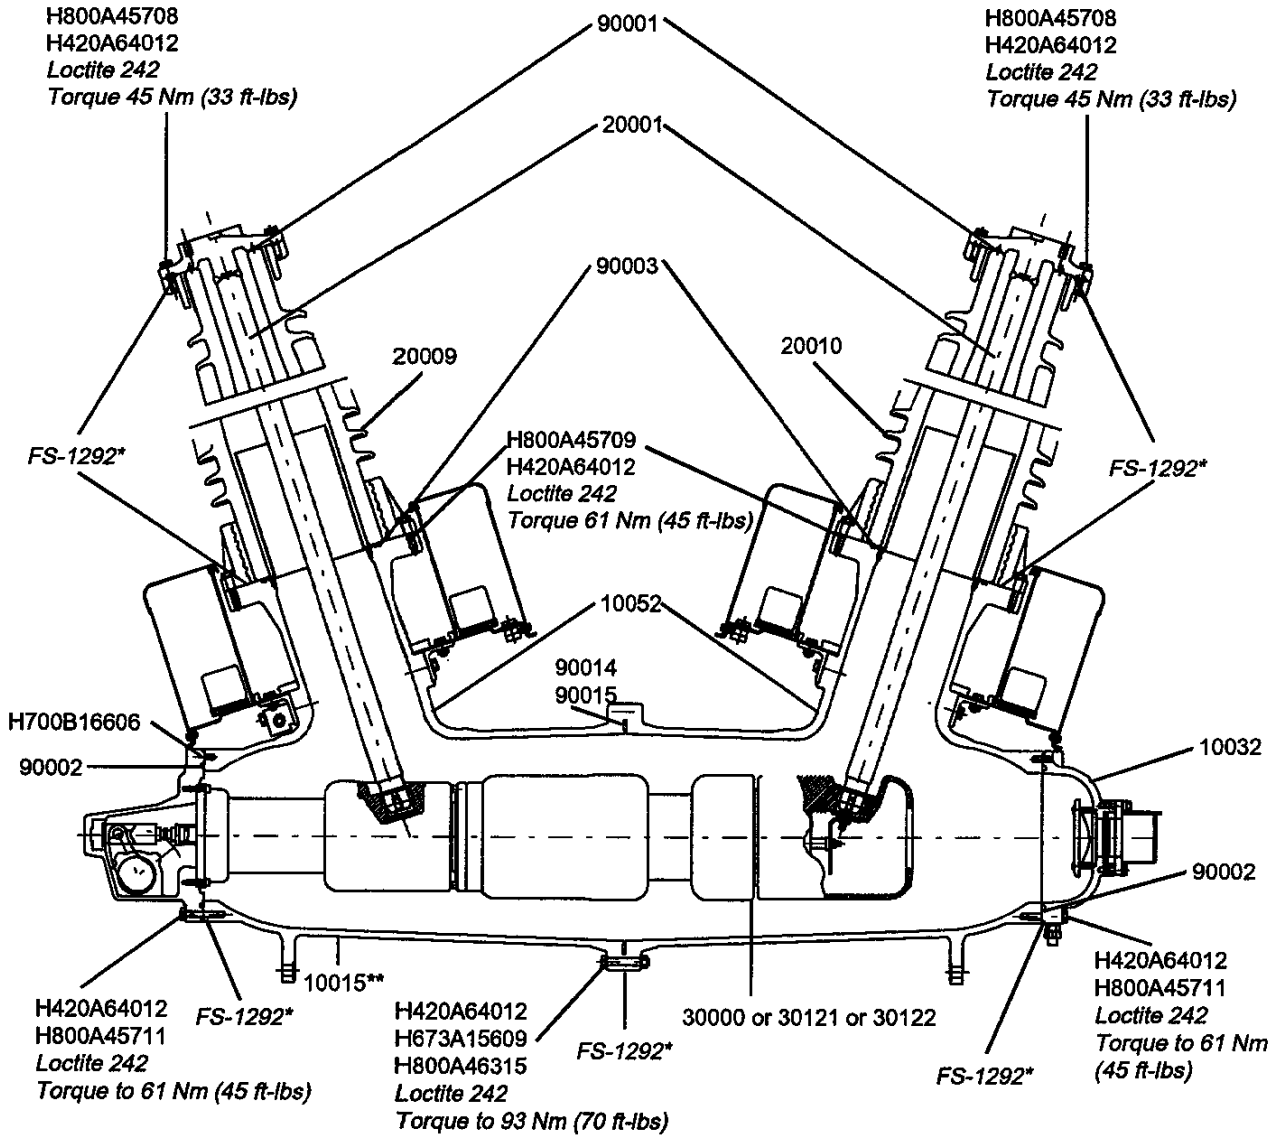

Figure 1
11. Remove the studs from the bushing top flange and re-install the six 1/2-inch hex head bolts H800A45708 (Fig. 1) and washers H420A64012 at each bushing cap. Apply Loctite 242 and torque to 45 Nm (33 ft-lbs).
To install the terminal pad 20311 (Fig. 7) to the top cap of the bushing conductor 20001 (Fig. 1):
1. Remove the rear tank cover assembly 10032 (Fig. 1) by unscrewing the twelve 1/2-inch hex head bolts H800A45711 and flat washers H420A64012.
The pole tank 10015 (Fig. 1) is made up of two identical halves 10052 bolted together in the center. The SF6 gas is sealed by a double O-ring sealing system where the tank halves join.
1. Remove the 1/2-inch hex head bolts H800A46315 (Fig. 1), washers H420A64012, and nuts H673A15609 which hold the halves together.
5. Rejoin the tank halves, being certain that the O-rings are properly situated. Re-install the 1/2-inch hex head bolts H800A46315 (Fig. 1), washers H420A64012, and nuts H673A15609. Apply Loctite 242 and torque to 93 Nm (70 ft-lbs).
4. Re-install the rear tank cover assembly 10032 using the twelve 1/2-inch hex head bolts H800A45711 (Fig. 1) with washers H420A64012. Apply Loctite 242 and torque to 61 Nm (45 ft-lbs).